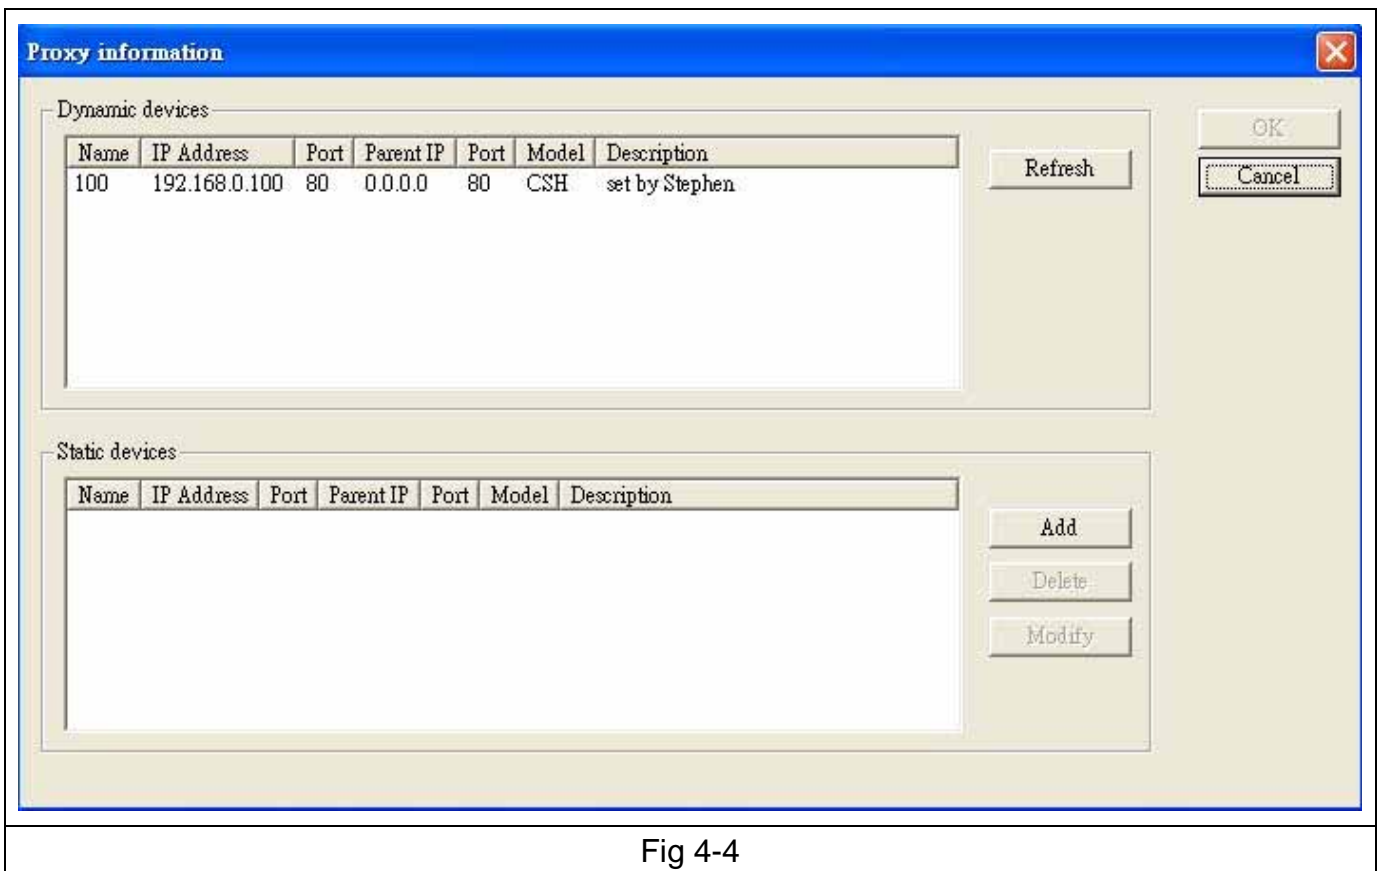

Fig 4-4
4. **Proxy Setting:** View the existing switches in this LAN, and also add/delete/modify any switch in the LAN for configuration convenience. (Fig 4-4)